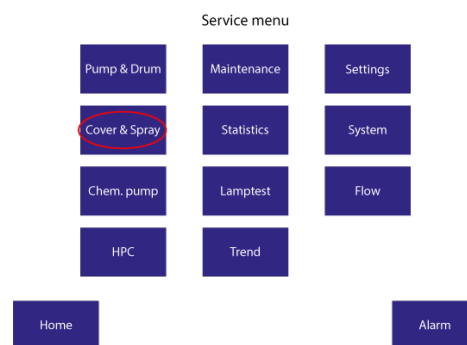

Figure 6.5 Service menu.
2. Select “Login” (if the user is not already logged in) and log in using your user name and password, see Figure 6.5 below.
4. Select “Cover & Spray”, see Figure 6.5.